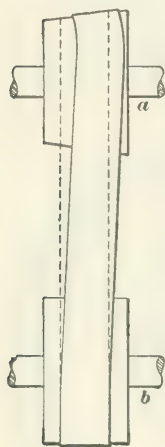

FIG. 13.
11. Crowning Pulley Faces.—In Fig. 13, suppose the shafts *a* and *b* to be parallel. Let the pulley on the shaft *a* be cone-shaped, as shown. The right-hand side of the belt will be pulled ahead more rapidly than the left-hand side, because of the greater diameter and, consequently, greater speed of the right-hand end of the pulley. It has been observed that in this case the belt will leave its normal position, which is indicated by the dotted lines, and climb toward the part of the pulley that has the largest diameter, as shown in the illustration. This tendency of the belt to climb toward the high side is taken advantage of to make the belt stay on a pulley. Suppose the pulley on the shaft *a* is replaced with one formed of two equal cones, with the large diameter in the center. Then, each side of the belt will tend to climb toward the highest point, and the consequence is that the belt will stay in the center of the pulley.